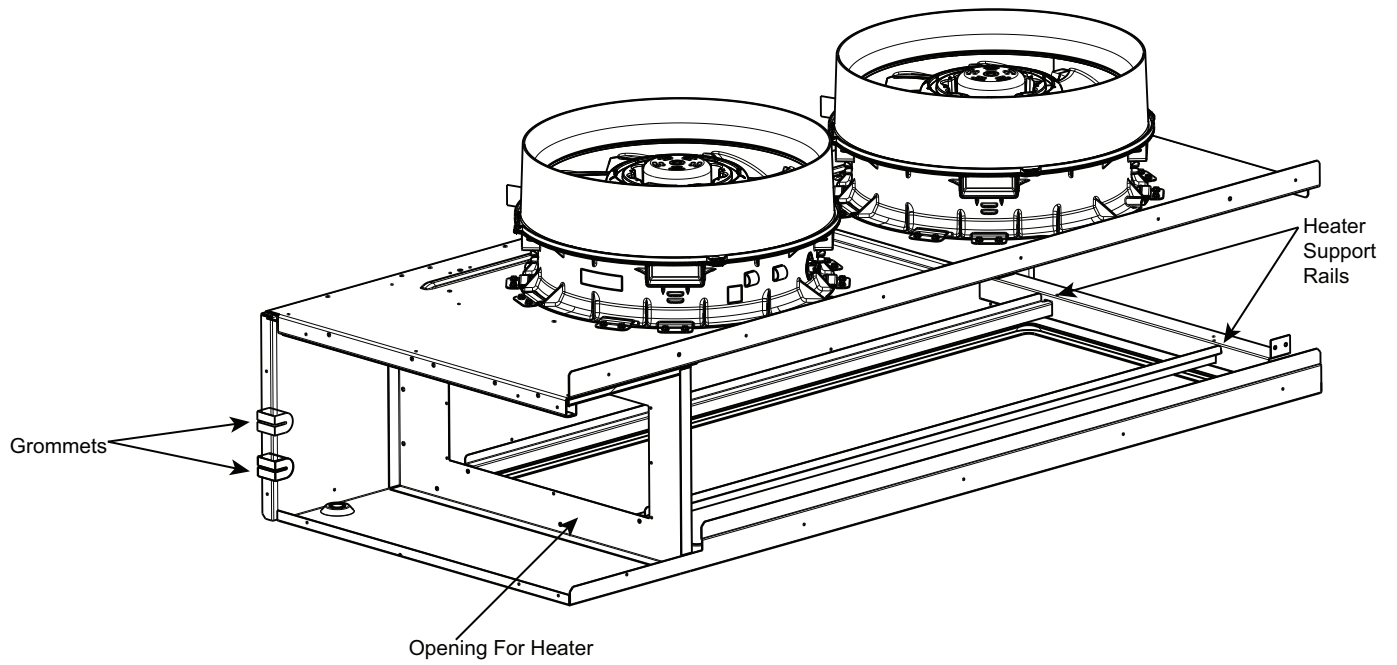

Fig. 48 — Opening for Electric Heater
4. Insert heater assembly through opening where block-off plate was previously removed. Let back end of heaters slide along support rails beneath fan deck. (See Fig. 48.)
6. Route heater power wires through grommets notches in vertical fan deck support. (See Fig. 48.) Continue routing wires under coil and filter support through the bottom notched section of the control box. Avoid sheet metal edges and any protruding screws.